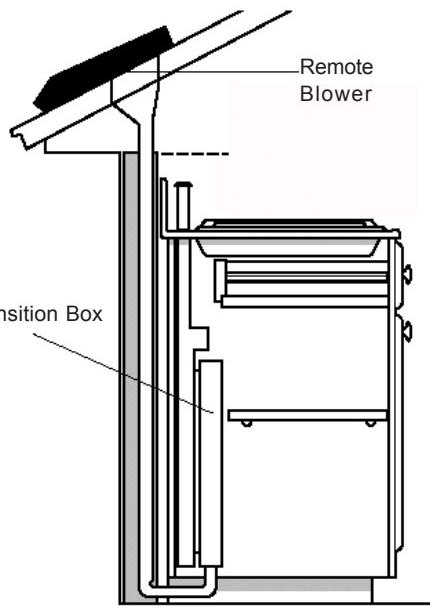

Figure 3
F. Investigate potential ductwork routes and choose the shortest possible route from the unit to an outside wall or to the roof via an inside wall and attic. For guidance, typical ducting installations are shown in figures 3 through 6. Installation in island locations will require under floor ducting. Peninsula locations usually require ducting laterally through cabinets or under cabinet toe-spaces. Consider potential interferences to ductwork from building framing (floor joists, wall studs, etc.) and utilities (electrical wiring, water, gas, or sewer lines, etc.).
# Figures 3 through 6 are examples of possible ducting